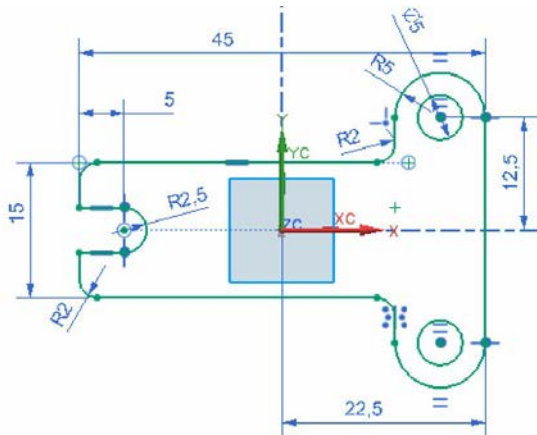

Figure 5-69 Sketch created for the base feature
2. Invoke the sketching environment by using the XC-YC plane as the sketching plane and draw a sketch similar to the one shown in Figure 5-69.